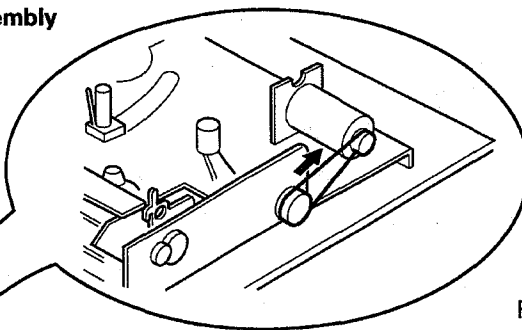
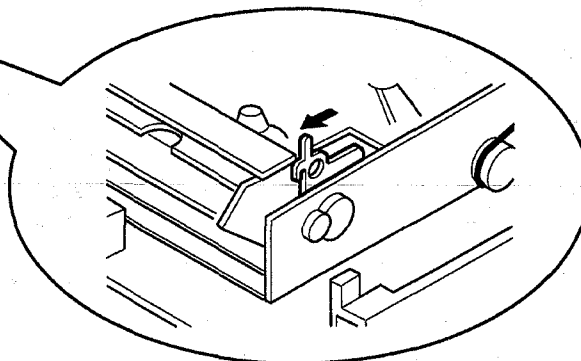

Fig. 2
Fig. 3
Turn the loading motor pulley in the direction as indicated by Fig.2. As both (A) and (B) levers are lodged twice, push the levers in the direction as indicated by Fig.3 to release them. When pushing the levers, do it in the order of (A),(B),(B),(A). When the holder has been lowered, turn the pulley until the cassette holder is securely in place without allowing any up/down movement.